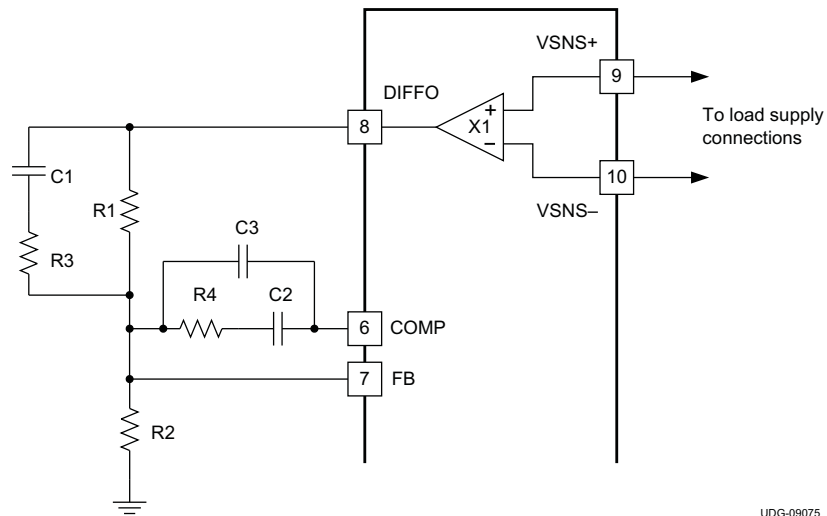

Figure 17. Setting the Output Voltage
Output voltage. The output voltage is set in a very similar to the way to a traditional analog controller using a voltage divider from the output to the feedback (FB) pin. The output voltage must be divided down to the nominal reference voltage of 600mV. Figure 17 shows the typical connections for the controller. The voltage at the load can be sensed using the unity gain differential voltage sense amplifier. This provides better load regulation for output voltages lower than 5V nominal (see electrical specifications for the maximum output voltage of the differential sense amplifier). For output voltages above this level, connect the output voltage directly to the junction of R1 and C1, leave DIFFO open do not connect the VSNS inputs to the output voltage. In this case, it is also recommended to connect VSNS+ to BP3 and VSNS- to GND. If desired the differential amplifier may also be used elsewhere in the overall system as a voltage buffer provided the electrical specifications are not exceeded
The components in Figure 17 that determine the nominal output voltage are R1 and R2. R1 is normally chosen to make the feedback compensation values (R3, R4, C1, C2 and C3) come close to readily available standard values. R2 is then calculated in Equation 1.
Output voltage adjustment. The nominal output voltage of the converter can be adjusted using the VOUT_TRIM command. See the VOUT_TRIM command description for the format of this command as used in the TPS40400. The adjustment range is $\pm 25\%$ from the nominal output voltage. The VOUT_TRIM command is typically used to trim the final output voltage of the converter without relying on high precision resistors being used in Figure 17. The resolution of the adjustment is 7 bits, with a resulting minimum step size of approximately 0.4%. Note that the output margining is accomplished using this same 7 bit structure so the total combined deviation from the nominal output for margining and VOUT_TRIM is still limited to $\pm 25\%$. Exceeding this range causes errors.
In order for the PMBus output voltage adjustments to function correctly, the VOUT_SCALE_LOOP parameter must be set properly. VOUT_SCALE_LOOP is a PMBus command (see *Supported PMBus Commands*) that tells the controller what the ratio of the voltage divider that sets the nominal output voltage is. The data for this command is the ratio of the divider that is used to set the output voltage. From Figure 17, VOUT_SCALE_LOOP parameter can be calculated using Equation 6.
- $R2$ and $R1$ are in consistent units from Figure 17